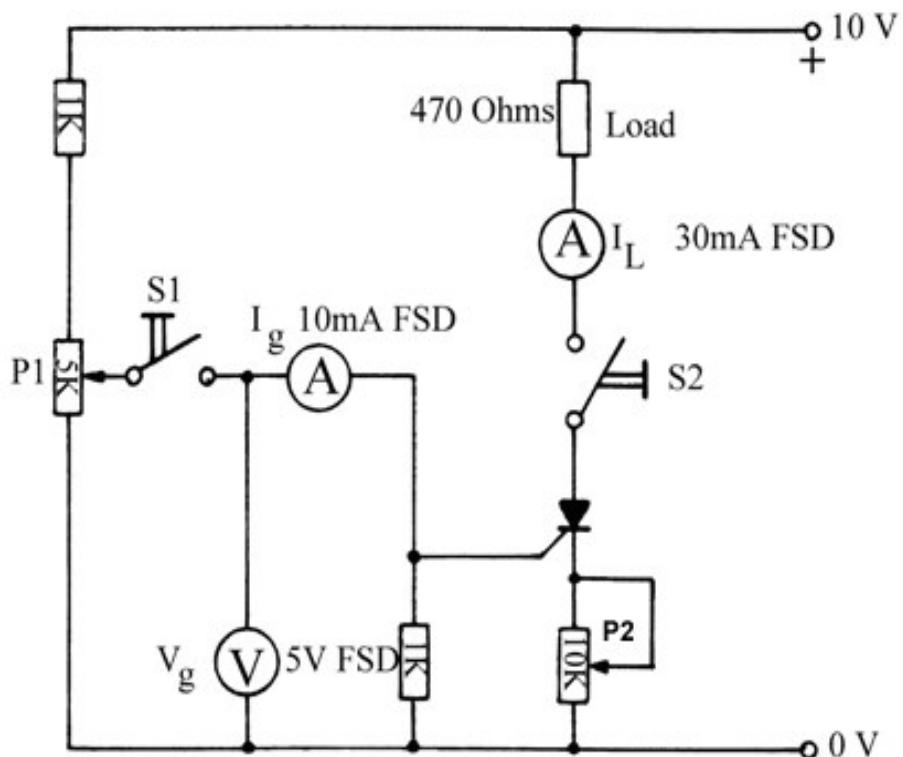

Figure 5
- Test the circuit shown in Fig. 5, where the SCR replaces two transistors.